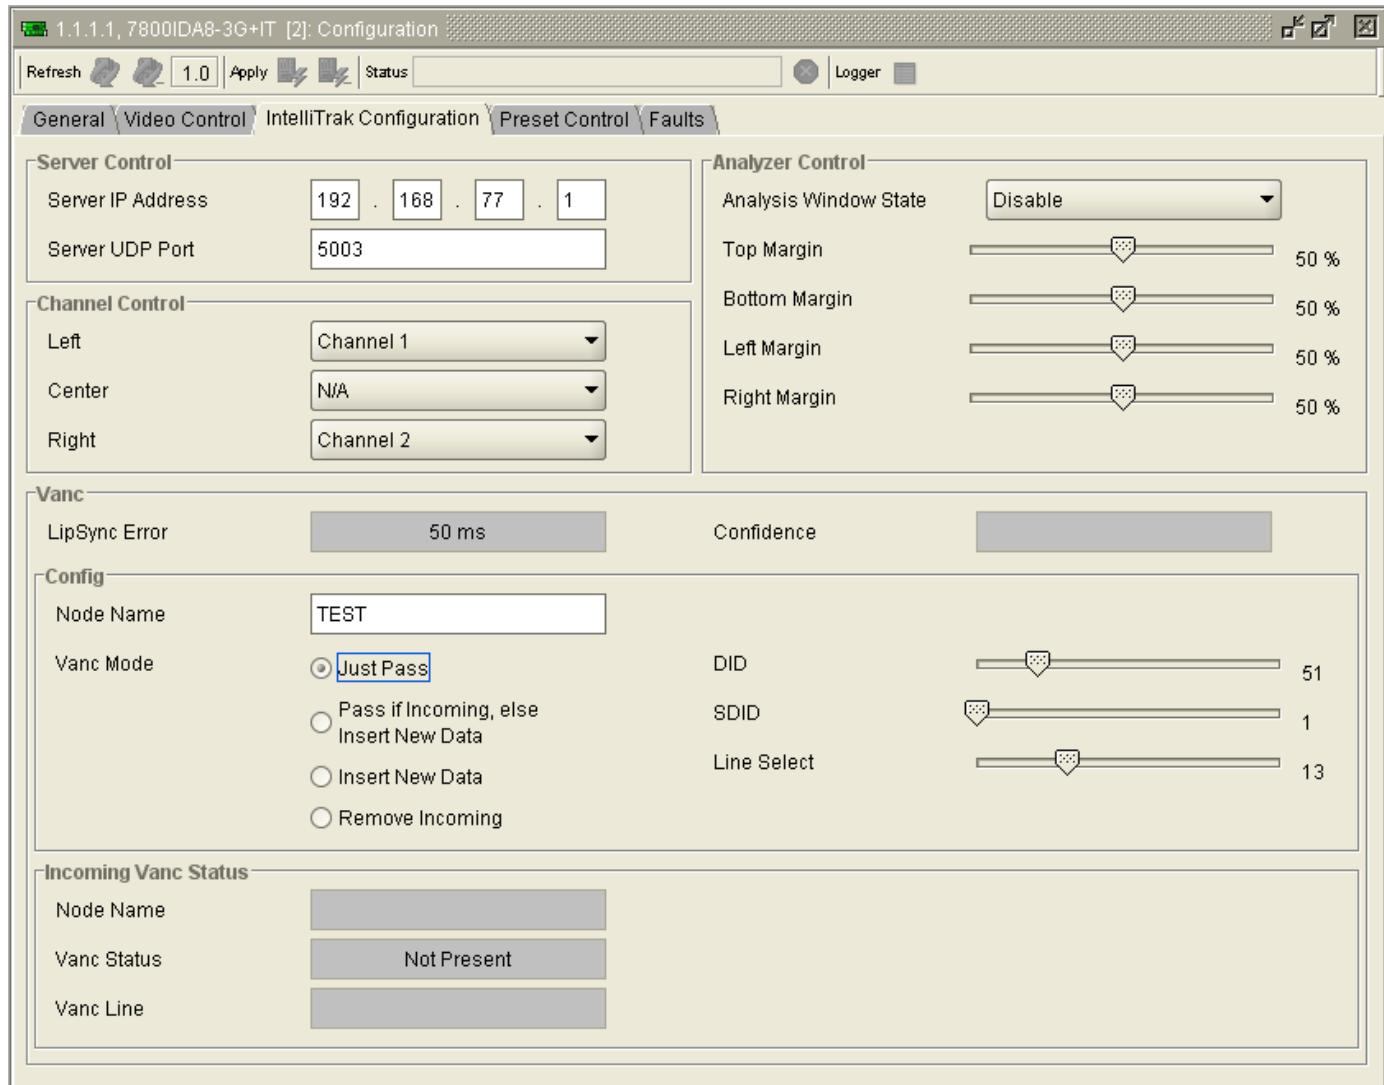

Figure 3-7: IntelliTrak™ Configuration Tab
1. Open the configuration of the first 7800IDA8-3G, and go to the ‘IntelliTrak™ Configuration’ page (as shown below in Figure 3-7).